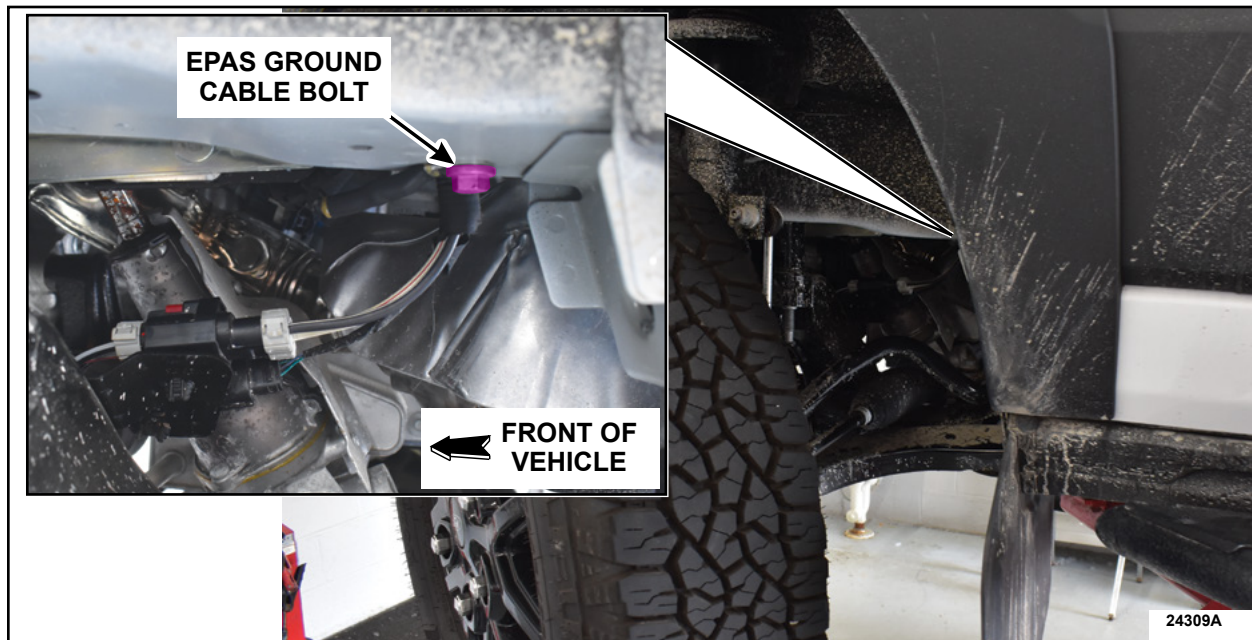

FIGURE 1
3. Remove the front Left Hand (LH) tire. Follow the WSM procedures in Section 204-04A.
4. Remove and discard the EPAS ground cable bolt. See Figure 1.